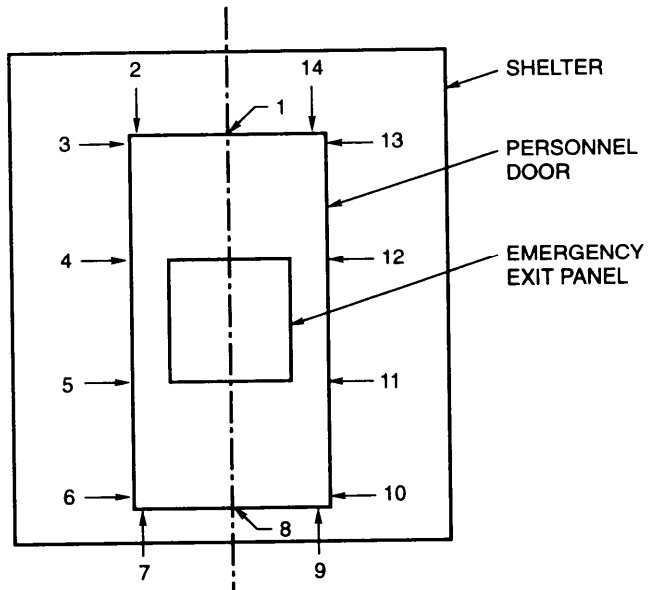
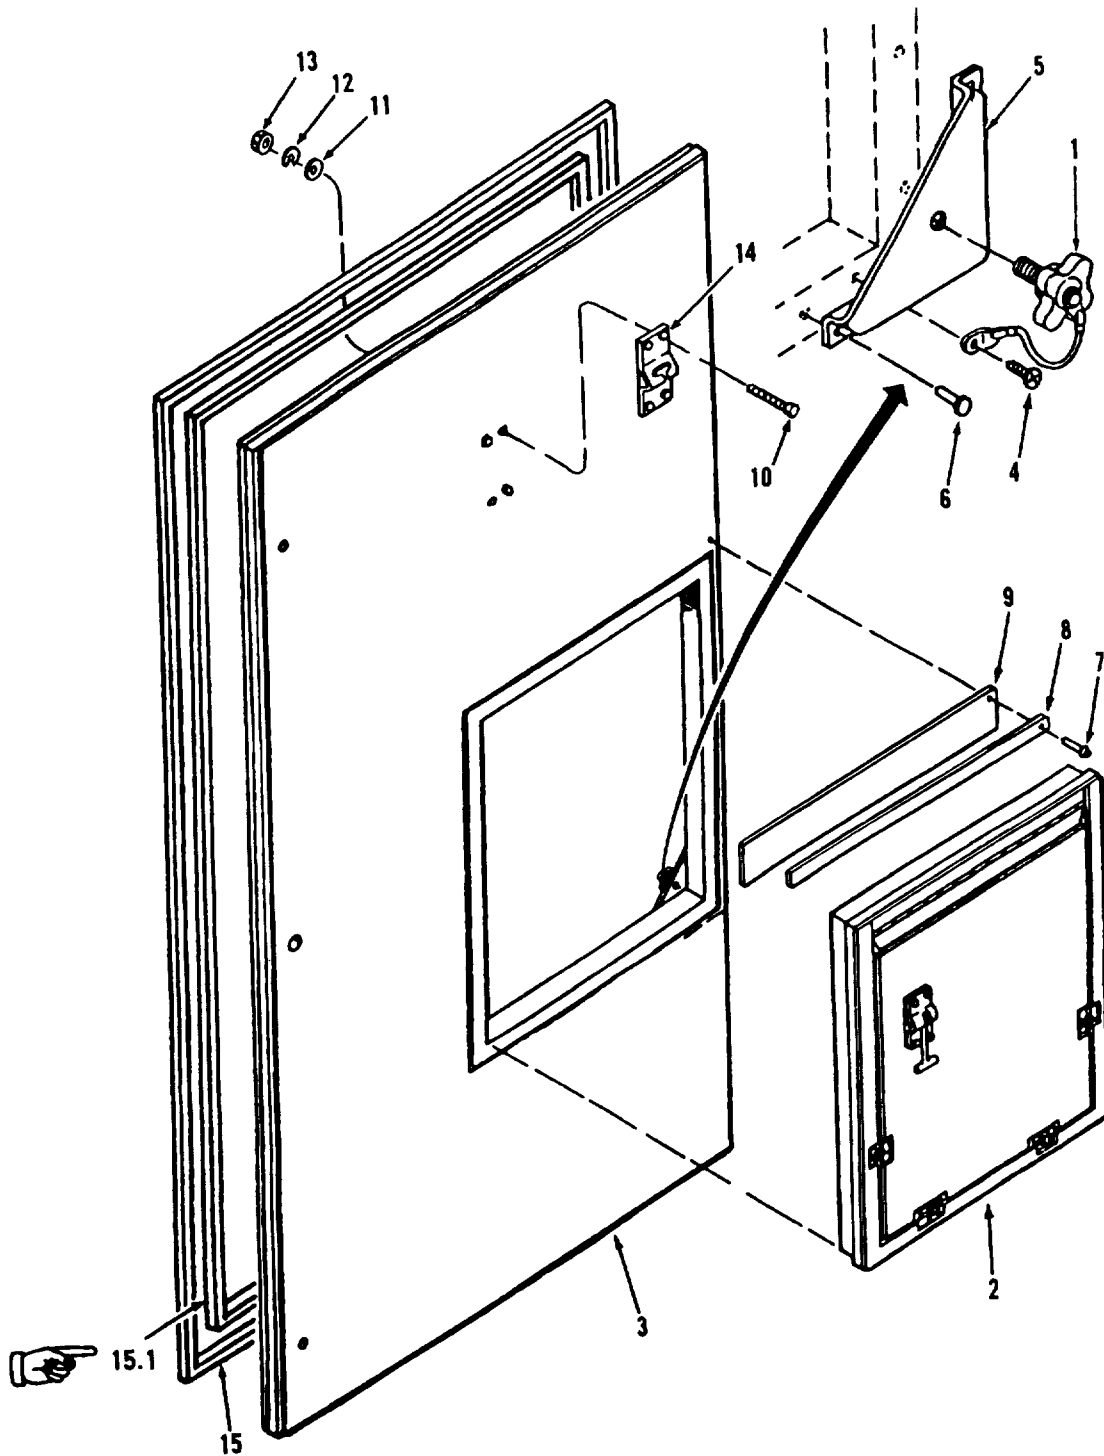
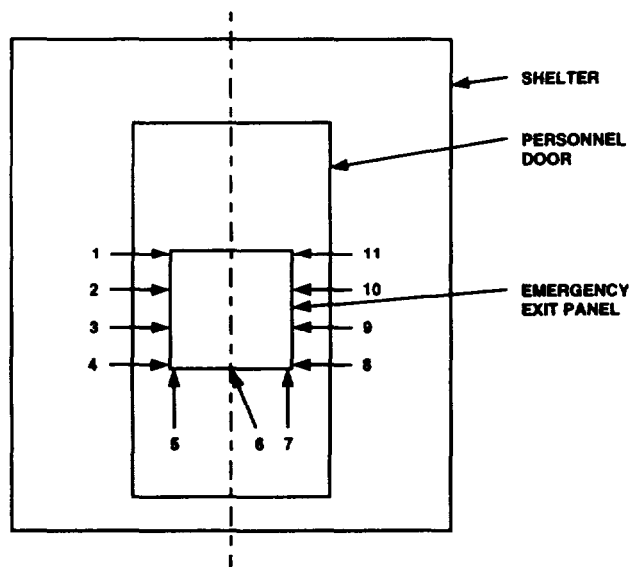
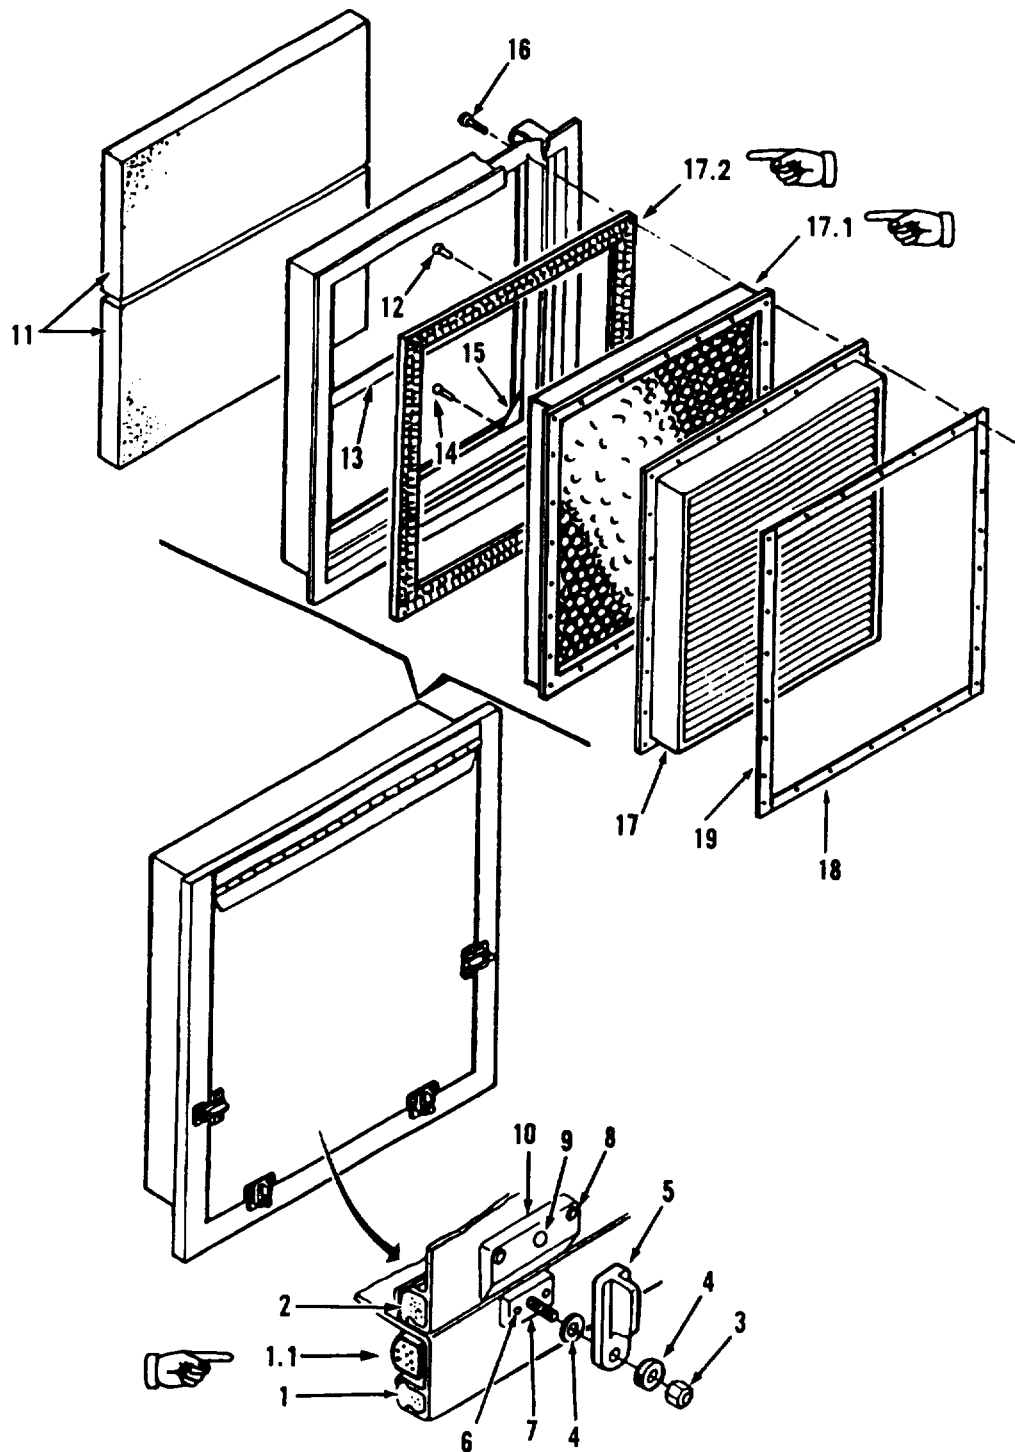

Figure 3-17. Typical Locations for Door Gasket Testing.
Figure 3-20. Door Assembly Maintenance.
Figure 3-21. Typical Locations for Emergency Exit Panel Gasket Testing
Figure 3-22. Emergency Exit Panel Assembly and (Shielded) RFI/EMI Filter Replacement
a. Inspect. (Figure 3-20)
- (1) Inspect the door assembly (2) for external damage.
- (2) Inspect the silicone weather gasket (15) for tightness.
- (3) (Shielded) Inspect the EM gasket (1.1) for damage and secure mounting.
- (4) Inspect the door for positive closing and proper operation.
- (5) Inspect the knob assemblies (1) for tightness for securing the emergency exit panel (2) to door panel.
b. Test. (Figure 3-17) Test of the door assembly consists of testing for proper seal pressure on the silicone weather gasket. The procedure listed below shall be performed at the center top and bottom of the door; 1/2 inch from each corner; and along the sides of the door in 2 places (approximately 1/3 and 2/3 the height of the door), as shown in Figure 3-17.
- (1) Place a single piece of paper (0.005 inches maximum thickness by 2-1/2 inches wide) between the silicone weather gasket and its bearing surface.
- (2) Close and lock the door.
**e. Disassemble.** (Figure 3-20)
- (1) Turn each of the four knob assemblies (1) counterclockwise to release the emergency exit panel (2) and remove panel from door (3).
- (2) Remove rivet (4) attaching the knob assembly chain (4) to retainer bracket (5) and remove knob. Refer to paragraph 3-9.a. for rivet removal.
- (3) Remove two rivets (6) attaching each air inlet panel retainer (5) to door panel (2) and remove retainers.
- (4) Remove 17 rivets (7) attaching the drip moulding (9) to door and remove drip moulding (9) and drip cap strip (8).
- (5) Remove and retain four phillips head screws (10), flat washers (11), lock washers (12), and nuts (13) attaching each T-latch holder (14) to door (3) and remove holder (14).
- (6) Remove the silicone weather gasket (15) and clean any adhesive residue from track.
- (7) (Shielded) Remove the EM shield (15.1).
**f. Assemble.** (Figure 3-20)**CAUTION**
- (1) For assembly instructions to secure the roller latch assembly on a new door, refer to paragraph 3-20.
- (2) Position door in place and turn door handle to closed position.
- (3) Butt each of the four hinges (8) against the door and secure using two 5/16-24 x 2-27/32 bolts (4), one 5/16-24 x 2-23/32 bolt (5), three flat washers (6), and three self-locking nuts (7).
- (4) Secure the door stop bracket (2) to inside of door using ten phillips head screws (1) and with a phillips head screw (3) secure the chain end.
**h. Repair.** (Figure 3-20) Repair of the door assembly consists of panel replacement and repair of the silicone weather gasket, (Shielded) EM shield, knob assemblies, air inlet panel retainers, drip moulding and T-latch holder.
a. Inspect. (Figure 3-22)
- (1) Inspect the panel for external damage.
- (2) Inspect the silicone weather gasket (1) located on the outside track on the inside periphery of the panel, and weather gasket (2) located on the inside edge of the panel cover.
- (3) (Shielded) Inspect the EM shield (1.1) located adjacent to the silicone weather gasket (1).
- (4) Inspect the air filters (11) for wear and cleanliness.
- (5) (Shielded) Inspect the RFI/EMI filter (17.1).
- (6) Inspect the four latches (5) for wear and secure mounting.